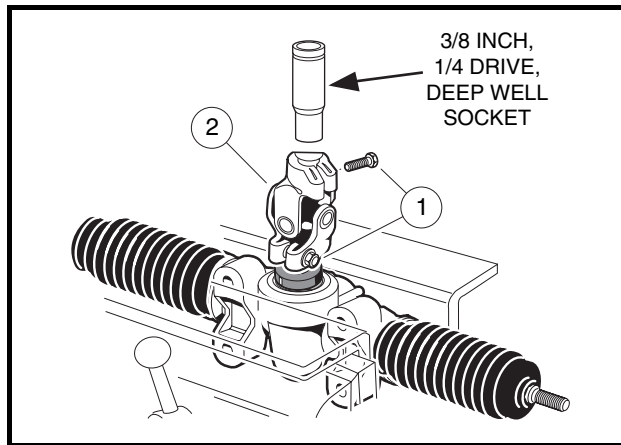

Figure 7-22 Rack and Pinion Resistance
11. Insert a 3/8-inch, 1/4-drive, deep-well socket into the steering column end of the universal joint (2) and tighten the bolts (1) to 15 ft-lb (20.3 N·m) (**Figure 7-22, Page 7-12**).